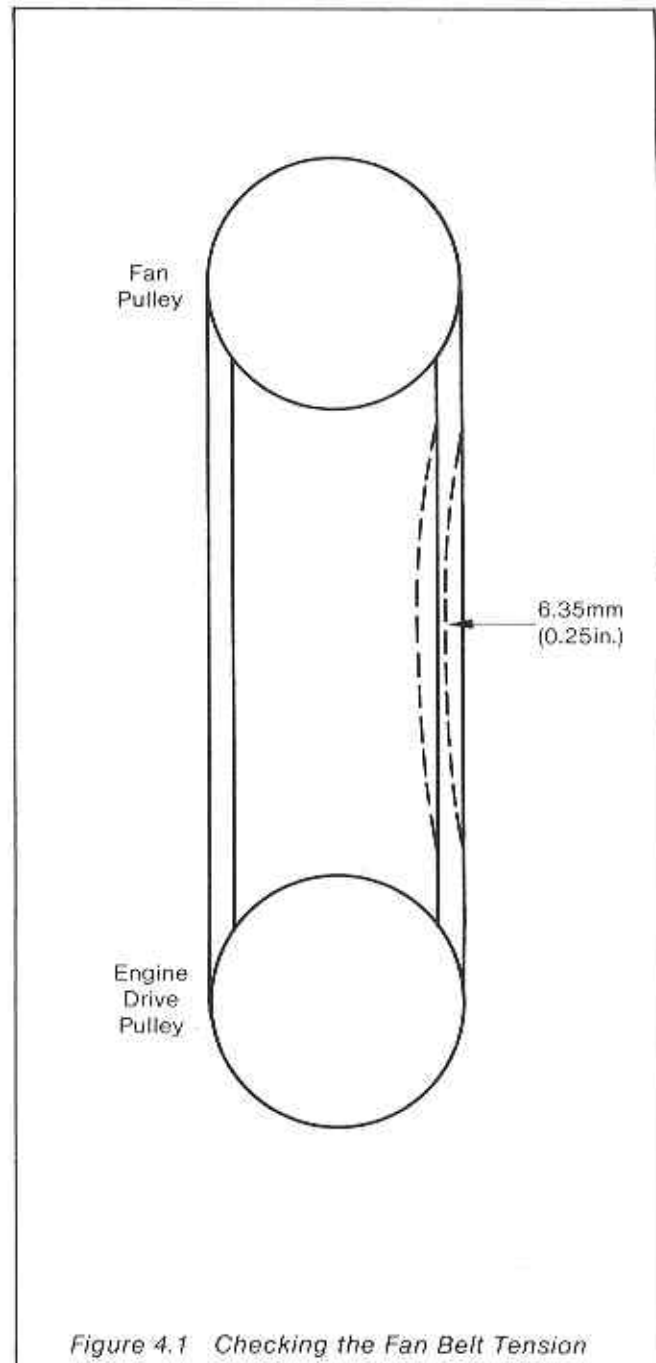

Figure 4.1 Checking the Fan Belt Tension
- (1) Loosen the locknut on the fan pulley support.
- (2) Loosen the six fan guard securing bolts.
- (3) Slide the pulley support assembly upwards to increase the belt tension or downwards to decrease it.
- (4) The fan belt tension is checked by applying pressure on the belt as shown in Figure 4.1. The belt should have about 6.35 mm (0.25 in.) movement.
- (5) Tighten the fan pulley support locknut.
- (6) Centralize the fan guard so that it is completely clear of the fan blades when rotated and tighten the six securing bolts.